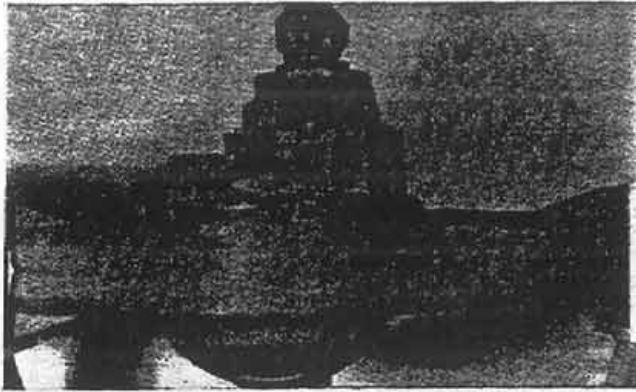

Figure 17:
IMPORTANT: Check and record ring gear and pinion back lash in three (3) locations before disassembly of the differential assembly. This should be done in the event the original ring gear and pinion is to be reused so that they will be reset the same on reassembly of the unit (Fig. 17).